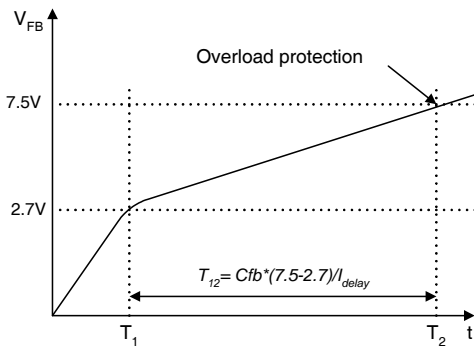

Figure 27. Overload protection
3.2 Overload Protection (OLP): When the load current exceeds a preset level for longer than the pre-determined time, protection circuit should be activated to protect the SMPS. Because of the pulse-by-pulse current limit capability, the maximum peak current through the SMPS is limited, and the maximum input power is restricted with a given input voltage. If the output consumes beyond this maximum power, the output voltage, together with primary side regulation voltage, decrease below the set voltage. This reduces the current through primary side regulation transistor, which increases feedback voltage (Vfb). If Vfb exceeds 2.7V, D1 is blocked and the 2μA current source starts to charge Cfb slowly, compared to when the 0.9mA current source charges Cfb. In this condition, Vfb continues increasing until it reaches 7.5V and the switching operation is terminated at that time, as shown in Figure 27. The delay time for shutdown is the time required to charge Cfb from 2.7V to 7.5V with 2μA.